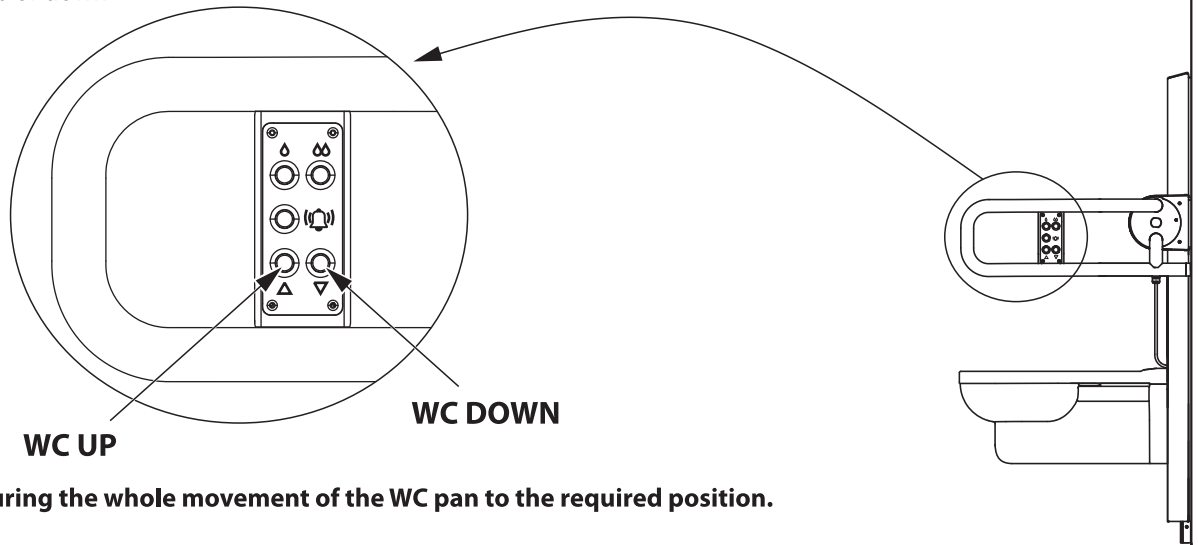

Fig.2
- During using the system, place your legs in front of the WC pan according to Fig. 2.